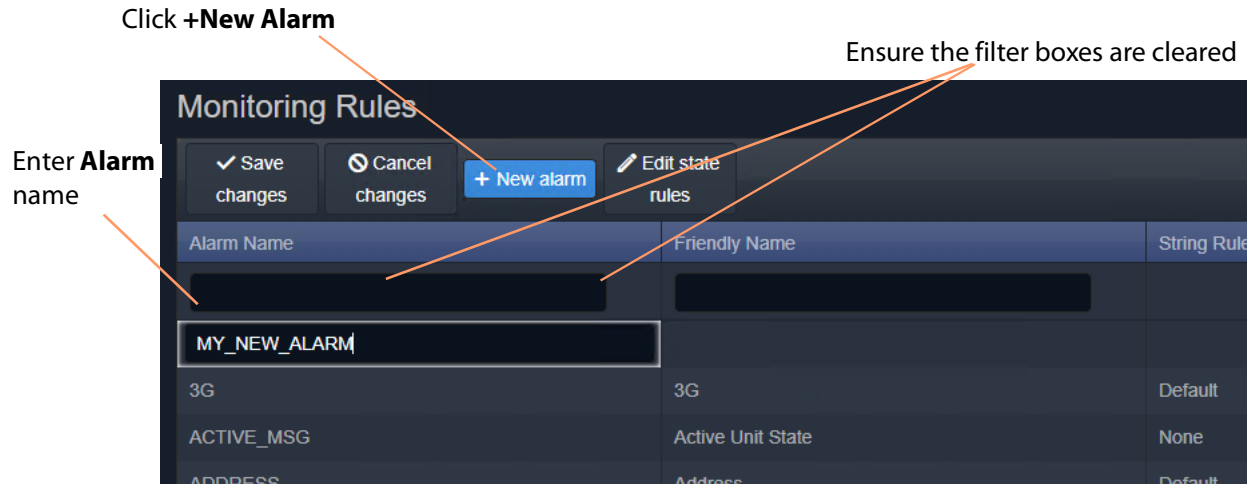

Figure 72: Enter Alarm Name
- 2 Begin to enter the new **Alarm's** name and select a name from the drop-down list (or enter a new name, if required). (This is the message Header that the new Monitoring rule will apply to.) See Figure 72.